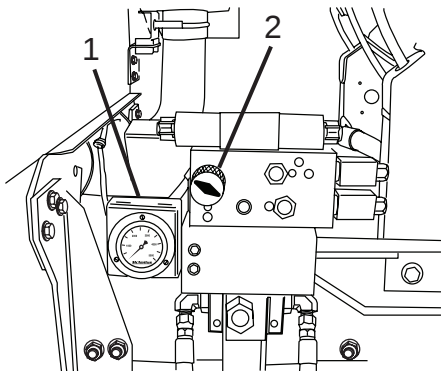

Figure 13
12. Turn the PRV knob (Figure 13, Item 1) all the way counterclockwise to minimize the pressure applied to the Bridgmaster trailer when the drum is empty. Pressure will be displayed on the gauge (Figure 13, Item 2).